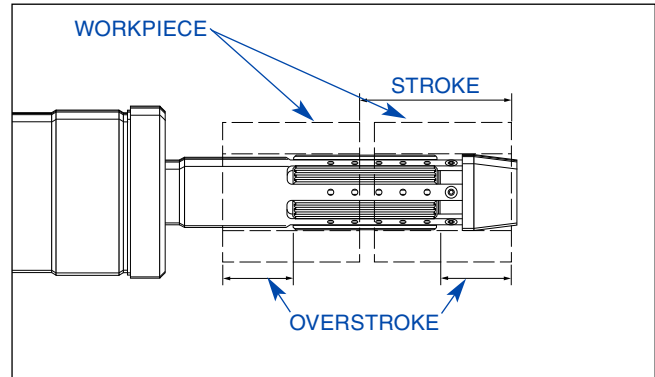

FIGURE 3-6, Overstroke
- Check stroke position: Use Palm Buttons to slow stroke tool through bore several times to ensure proper clearance (see Figure 3-6).